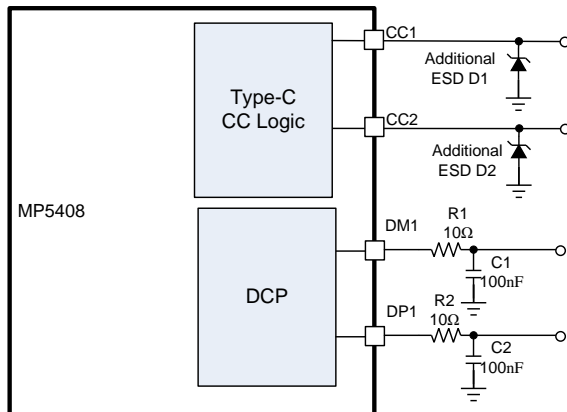

Figure 10: Recommended I/O Pins ESD Enhancing
Higher ESD levels should be considered for all USB I/O pins. The MP5408 features high ESD protection up to $\pm 8\text{kV}$ human body model on DP, DM, USB1, and USB2, and $\pm 5.5\text{kV}$ human body model on CC1 through CC4. The ESD structures can withstand high ESD in normal operation and when the device is powered off. To further extend DP and DM's ESD level for covering complicated application environments, additional resistors and capacitors can be added (see Figure 10).
11) See Figure 10 for details on the I/O pins' ESD protection enhancement.